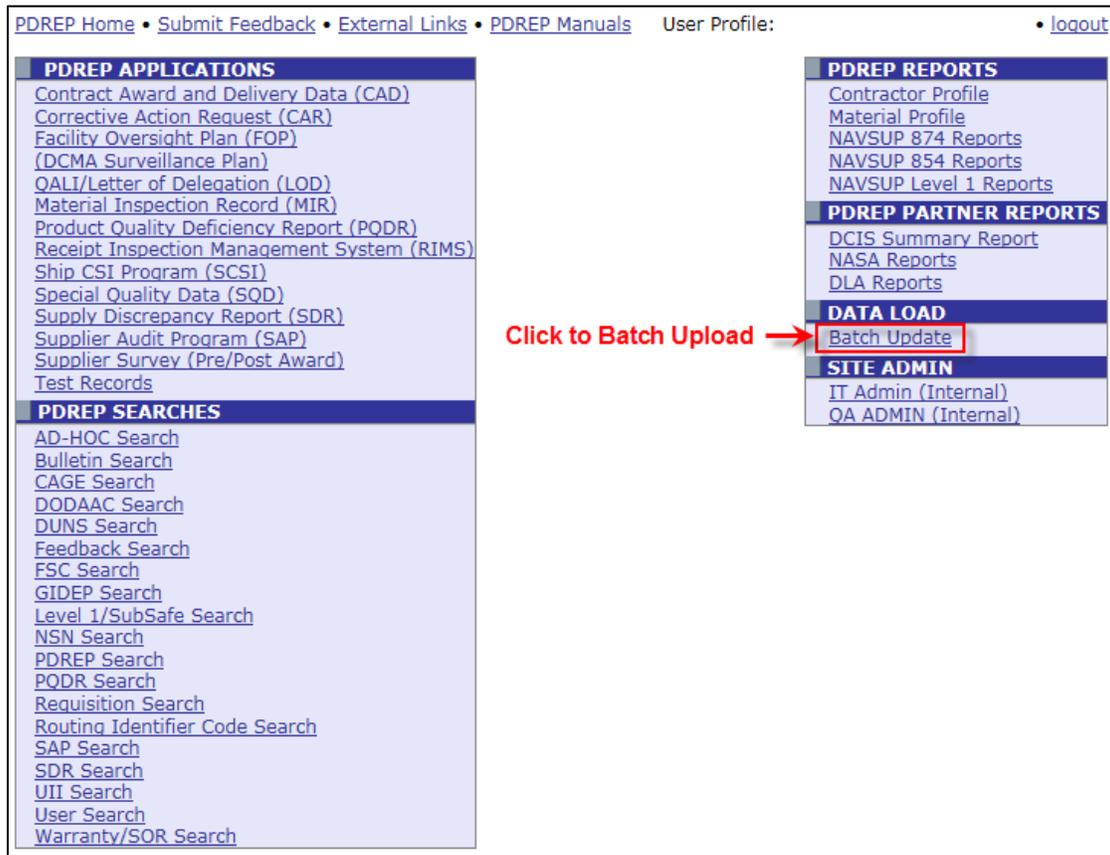

Figure 1.1
- a. Once the user has been granted batch upload rights, and their organization has set up their database system to produce the batch upload file, the user can select the “Batch Update” link on the PDREP Main Menu (Figure 1.1) to begin the process of uploading the batch file to PDREP as displayed below.